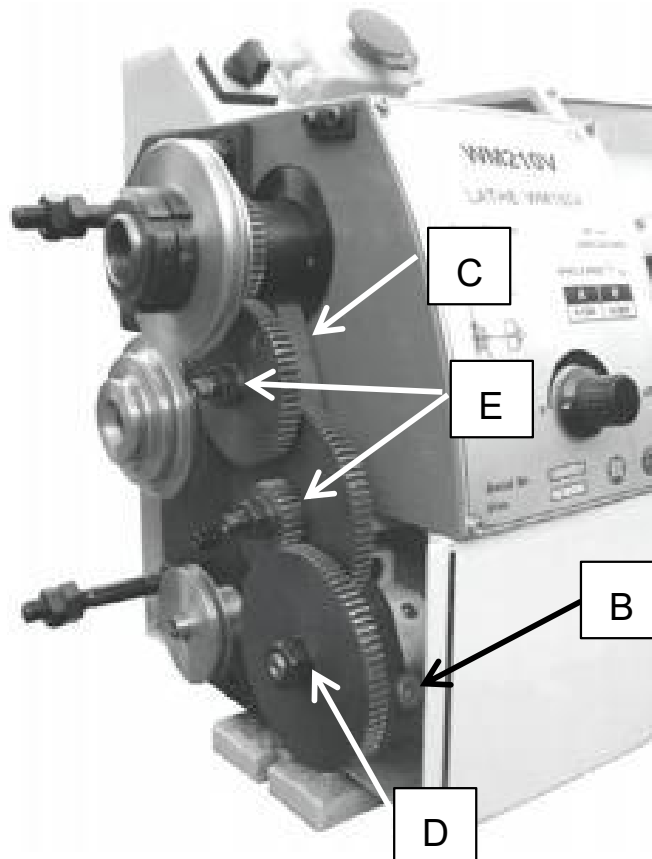
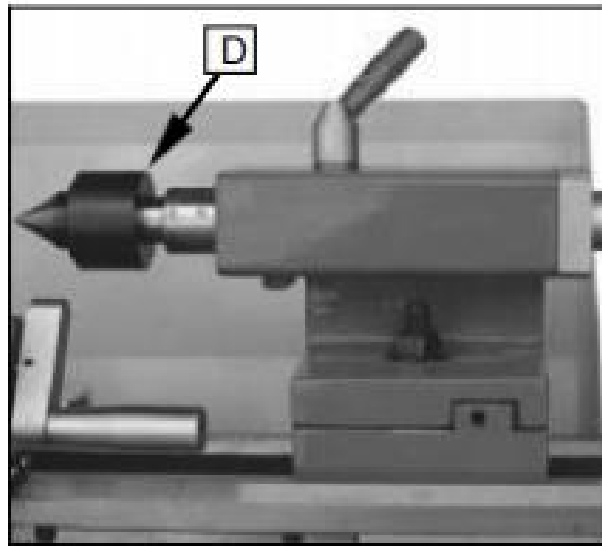

Fig. 19
Fig. 29
3. Loosen the locking screw (B, Fig.19) on the quadrant.
4. Swing the quadrant (C, Fig. 19) to the right.
5. Unscrew the nut (D, Fig.29) from the lead screw or the nuts (E, Fig.19) from the quadrant bolts in order to remove the change gears from the front.
The live center is mounted in ball bearings- Its use is highly recommended for turning at speeds in excess of 6.RPM. (Fig.29)